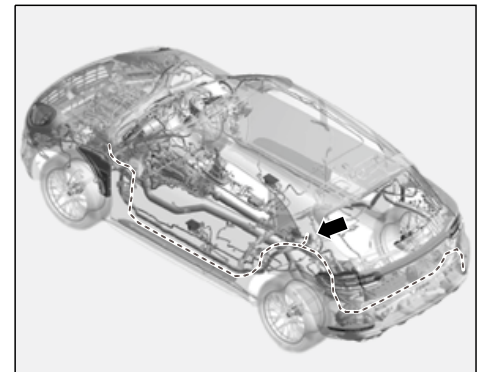

*Figure 40*
3.3 Guide connector (3-pin) through the bore to the underside of the vehicle and fit sleeve into the bore (⇒ *Figure 40*).